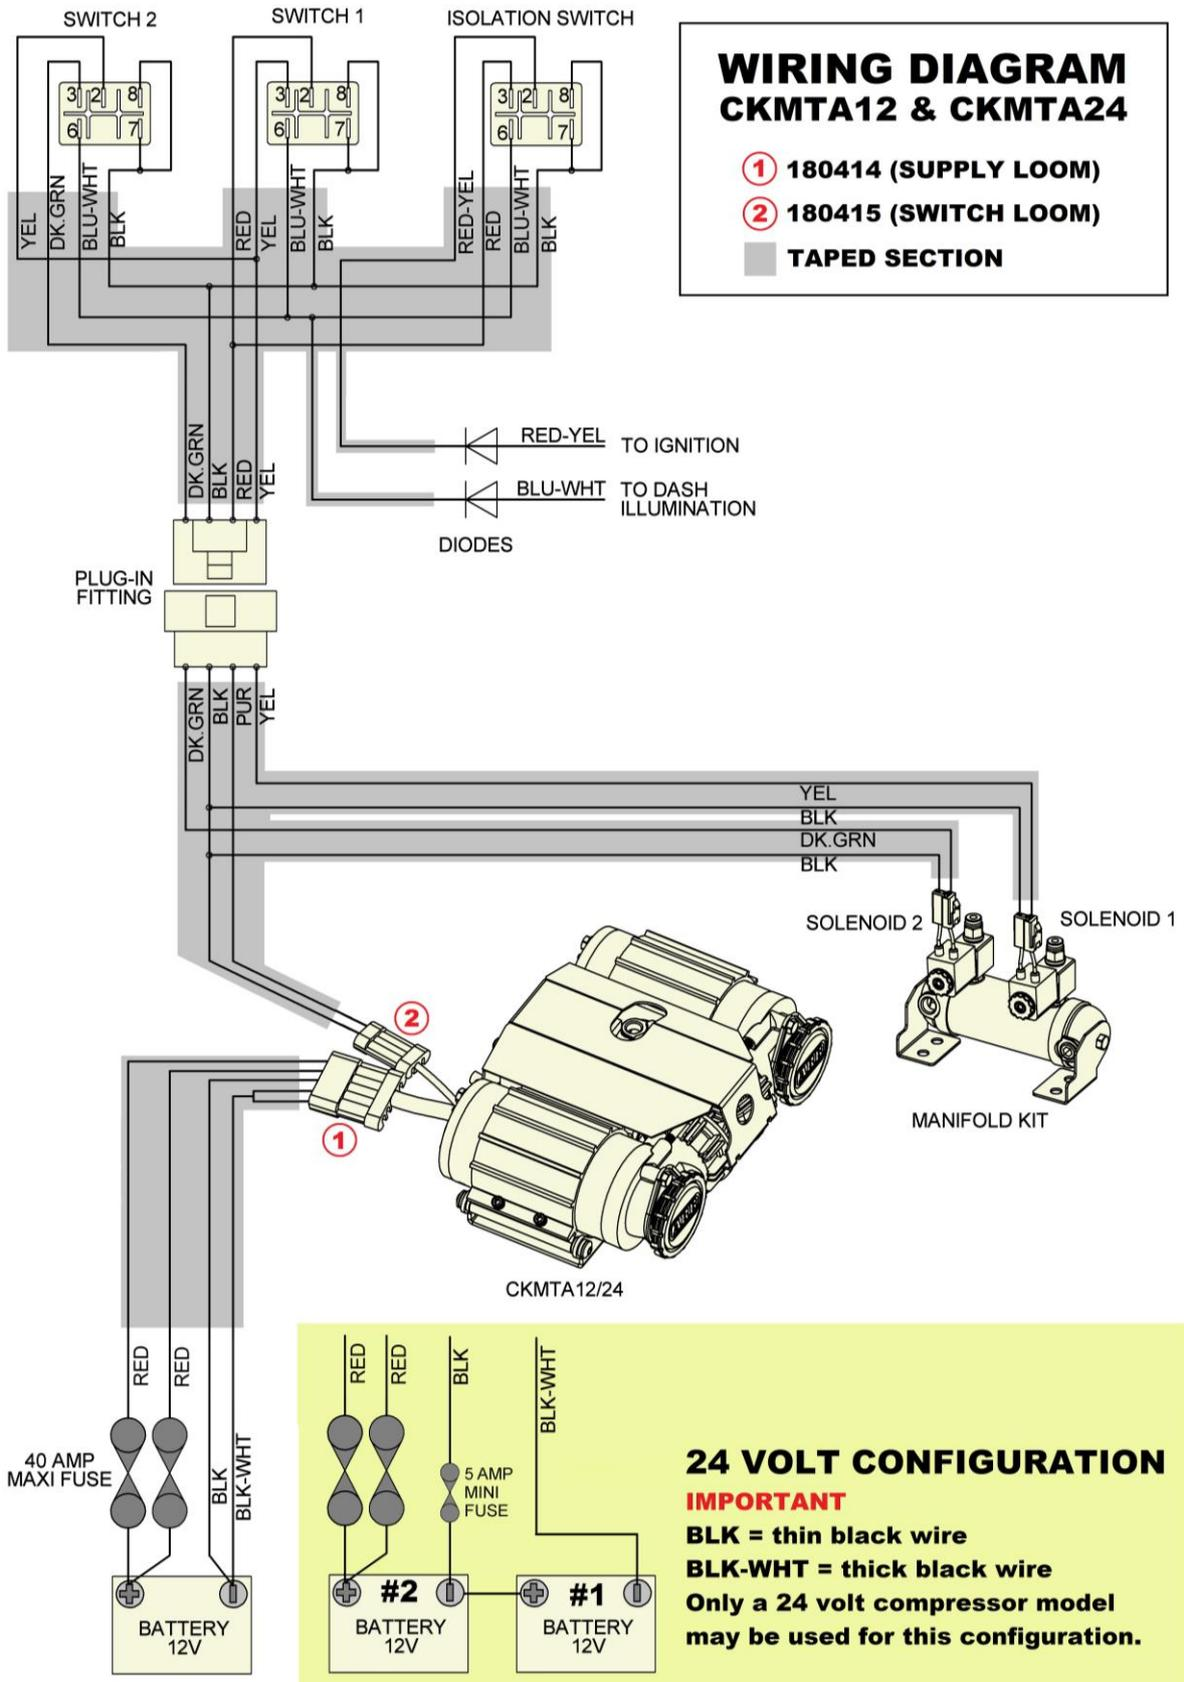
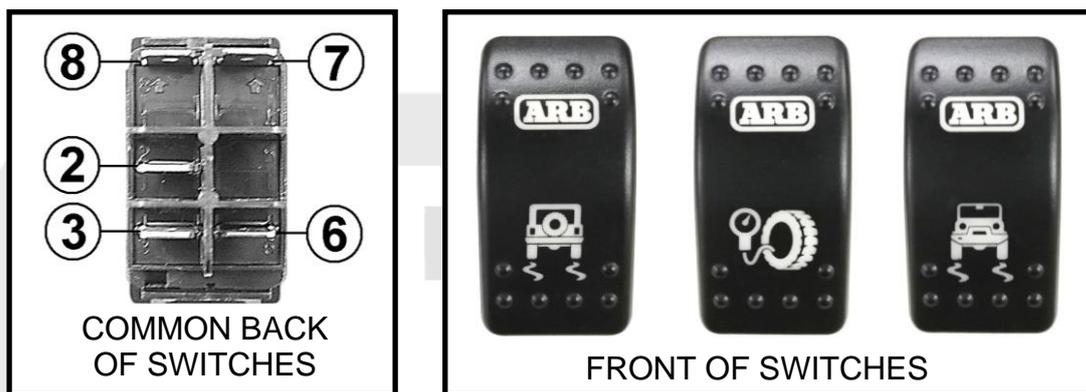

Figure 9.
Figure 10.
When wiring an ARB compressor switch, *Air Locker* actuator switch(es) and *Air Locker* solenoid(s), all connections can easily be set up using only the supplied wiring looms (ARB #180414 and 180415 shown in Fig. 9.)
- Consulting the wiring diagram (Fig.9.) for wire colors, and the switch terminal illustration (Fig.10.), plug each of the female spade terminals onto their appropriate switch terminal.
NOTE : In a 12V system the 2 black wires (BLK and BLK-WHT) will be joined together, so they may be crimped together into the same eye terminal if desired. Refer to wiring diagram in Fig 9.
- Identify which battery in the system will be used as the 24V negative (-) terminal (i.e., Battery #1 in the wiring diagram Fig. 9.) by connecting a multimeter across the positive (+) terminal of one battery to the negative (-) terminal of the other battery. If you have tested the correct negative (-) terminal then you will read approximately 24 volts on the multimeter, and this battery will be battery #1, and the other battery with the positive (+) terminal you have just tested will be battery #2 (refer to wiring diagram Fig. 9.).
NOTE : Double check that the connections match the wiring diagram (Fig 9.). Accidentally reversing the 2 black wires will cause damage to the compressor kit.
The following describes an effective procedure for tracing an electrical fault in a CKMTA12 or CKMTA24 compressor which has been wired using a genuine ARB wiring loom (refer to the diagram in Figure 9.). All steps must be performed in the order listed here for an accurate assessment.